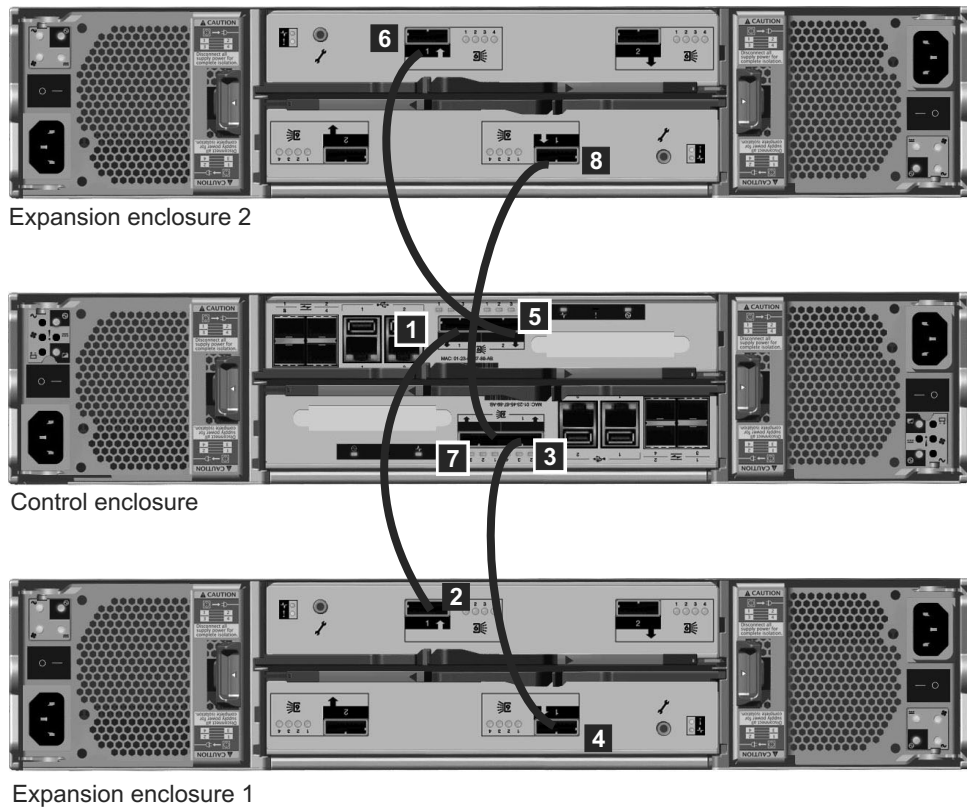

Figure 35. Adding a second expansion enclosure
- Attach the SAS cables from the control enclosure to the second expansion enclosure as shown in Figure 35 on page 46. The second expansion enclosure is above the control enclosure.